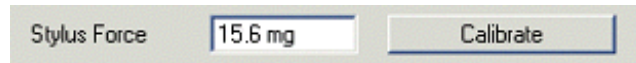

Figure 6.2 *Calibrating the Stylus Force*
4. Wait a few seconds for the stylus to drop and balance itself. Make sure there are no abnormal vibrations during the calibration. Once complete, the new force will be displayed in the **Stylus Force** entry as shown in Figure 6.2.